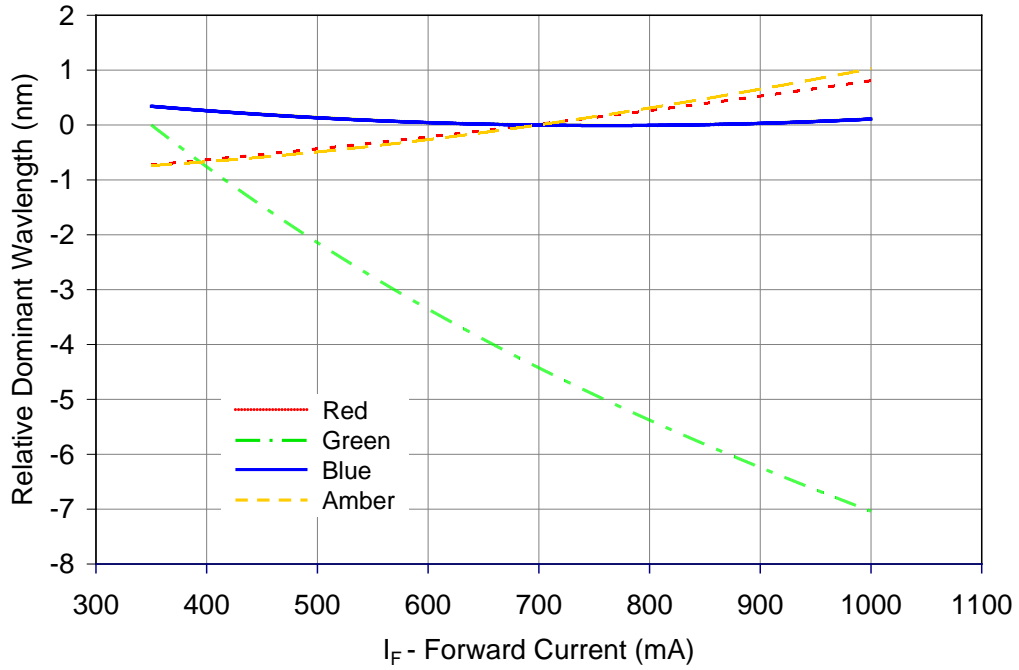

Figure 6: Typical dominant wavelength shift vs. forward current @ $T_C = 25^\circ\text{C}$.
- Green LEDs are binned for dominant wavelength @ $I_F = 350\text{mA}$. Refer to Figure 6 for typical dominant wavelength shift over forward current.
- Refer to Figure 6 for typical dominant wavelength shift over forward current.
Notes for Figure 6: